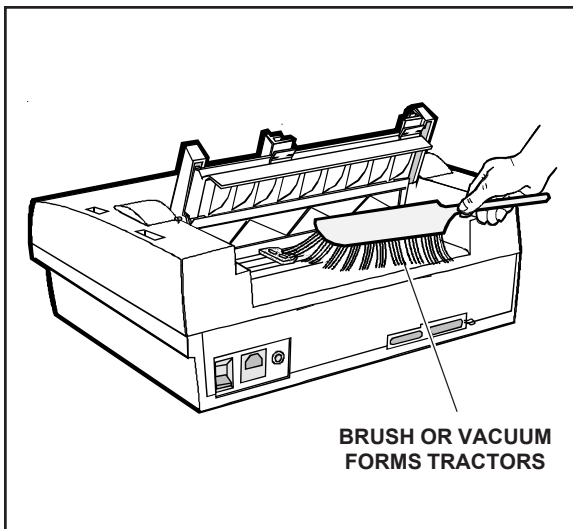

Figure 5-7. Cleaning the Forms Tractors
5. Using a soft brush or vacuum, remove all paper fibers, dust, and foreign matter from the rear forms tractors, as shown in figure 5-7.